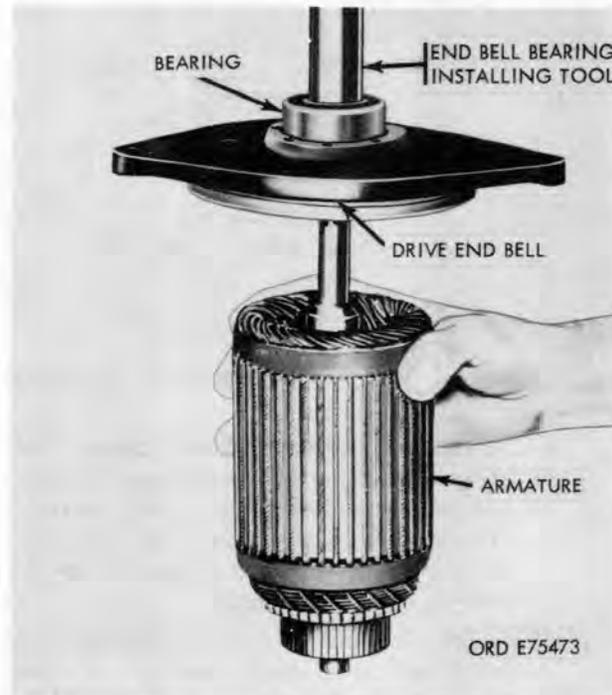

Figure 4-22. Installing drive end bell and bearing.
b. Install new corrugated washer in end bell. Position sealed ball bearing in end bell bore with trademark and/or part number toward armature. Install drive end bell and bearing over armature shaft and press bearing and end bell until bearing rests against armature shaft shoulder using improvised end bell bearing installing tool (fig. 4-22) and arbor press. Exercise care to prevent pushing felt washer and retainer from recess.